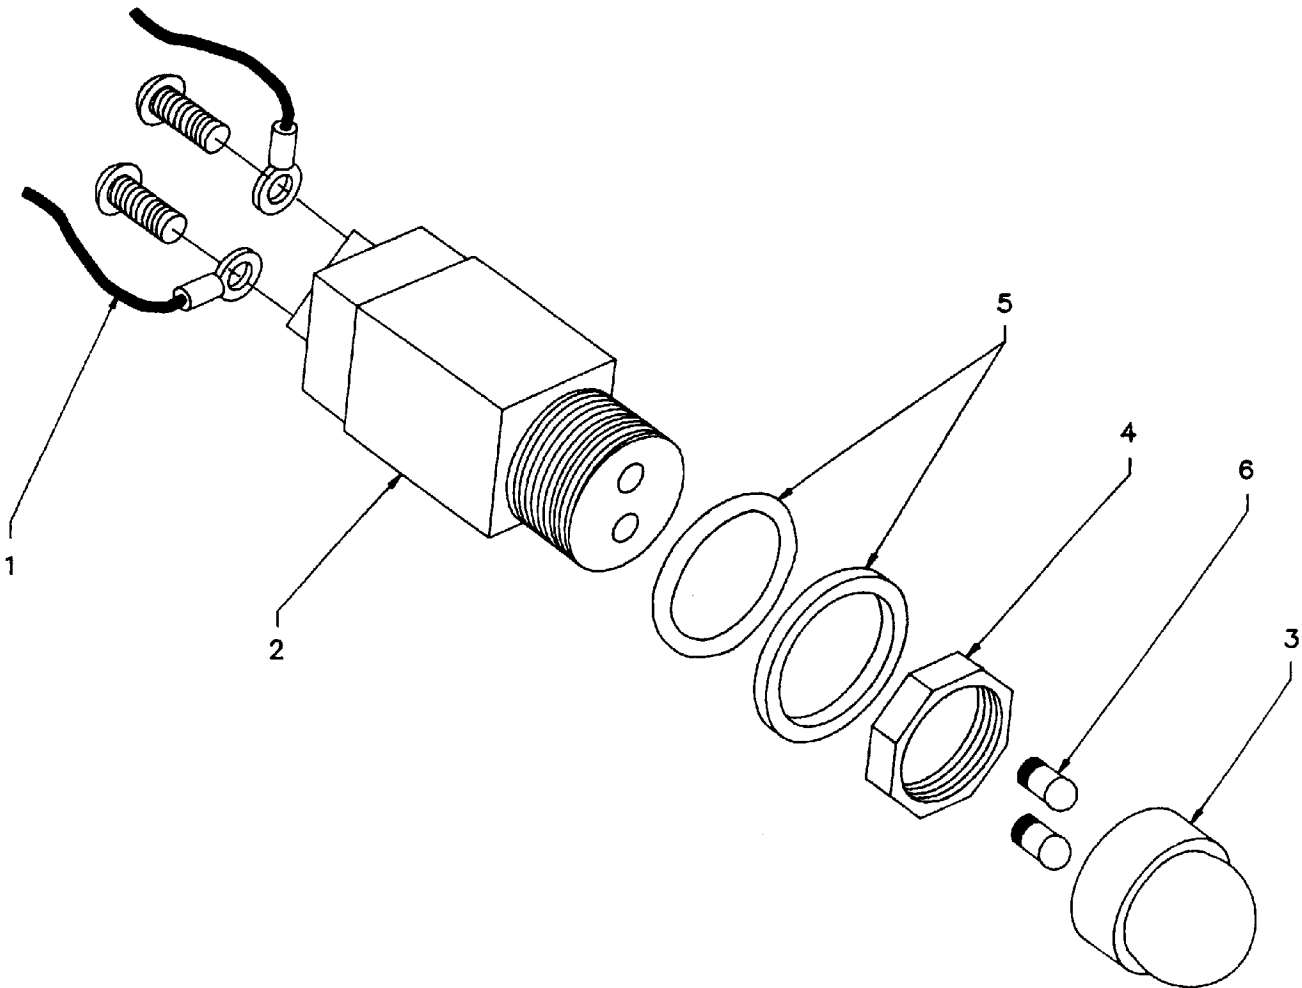

Figure 6-26. Typical Lampholder and Indicator Lamps
See figure 6-26 for a detailed view.
- b. Access into the switchboard is not needed. Turn the plastic lens cap (3), CCW until it is removed (see figure 6-26).
- c. Unscrew defective lamp (6) and replace with proper rated type lamp.